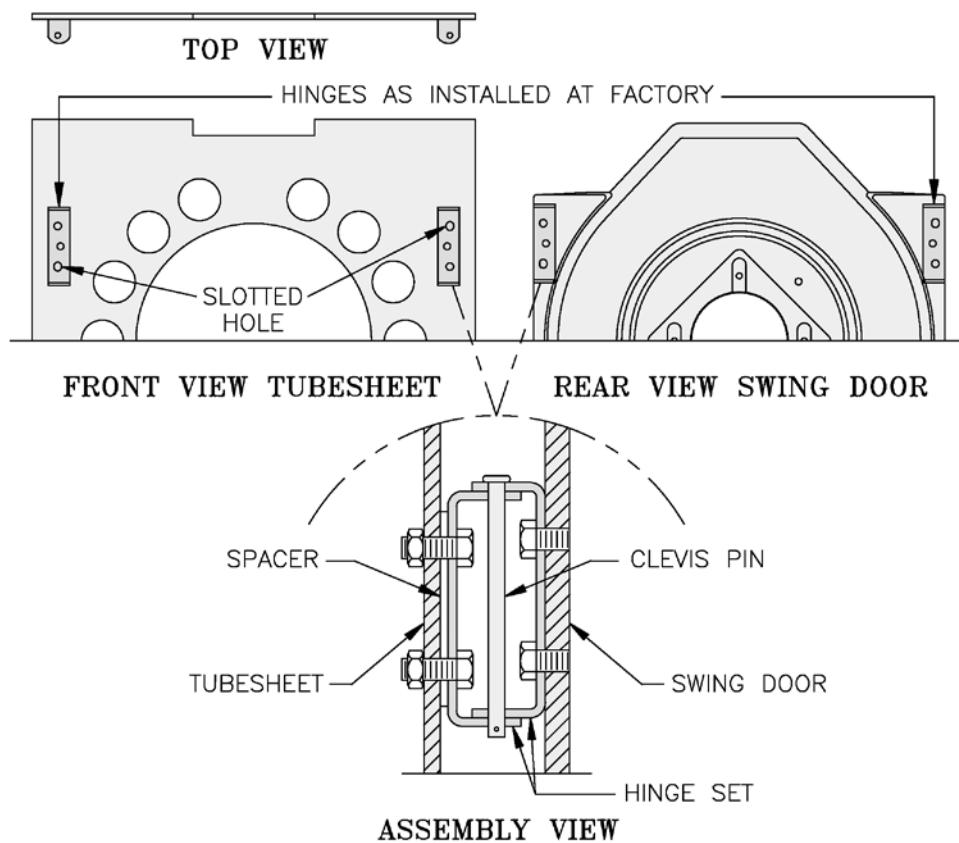

Figure 3: Proper Hinge Bracket Installation and Assembly
D. HINGE LOCATION CHANGE (if required) (refer to Figure 3).
5. Attach 2 hinge brackets & spacers to Tubesheet and 2 hinge brackets to Door on right side of boiler. 3 Holes in each Hinge Bracket must line up with 3 matching holes in Spacer, Tubesheet or Door. See Figure 3. Tighten hex nuts, bolts and screws by hand only.
6. Replace door assembly. Hinge brackets attached to door must rest on top of hinge brackets attached to tubesheet. See Figure 3. Slide hinge pins through hinges from top and install cotter pins. Close door and install 5/16" - 18 x 3" long hex head cap screws through flat washers and left side of door and into tapped holes in tubesheet. Tighten all hex nuts, bolts and screws. When door is installed properly, it is parallel to Tubesheet when viewed from top and sides.